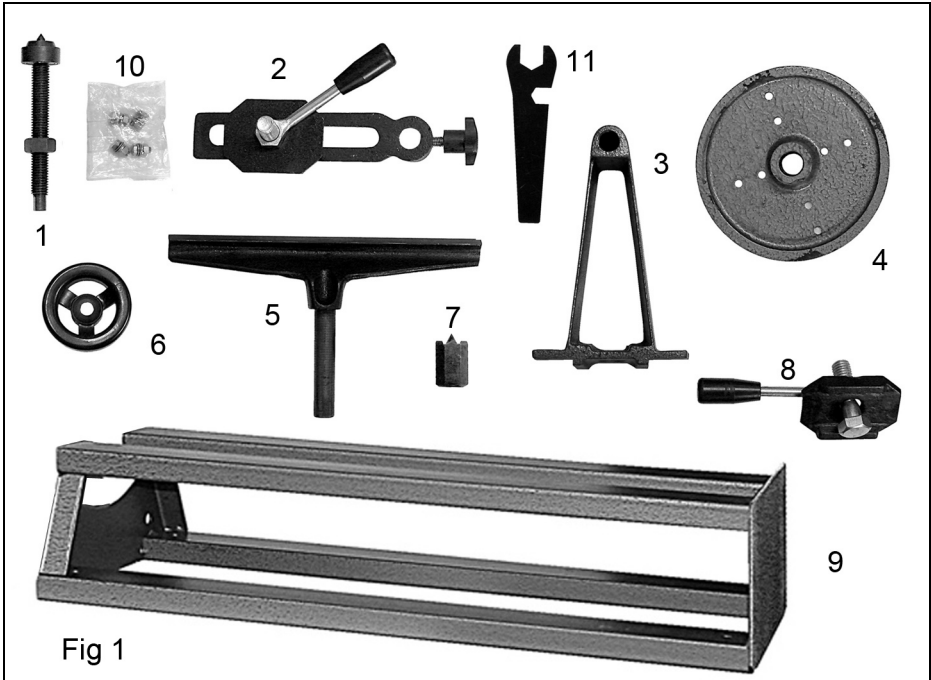

Fig 1
2. Place the tailstock on the bed and assemble the tail stock clamp assembly (8 in Fig 1) to the tail stock with the bolt through the hole in the tail stock, passing through the clamping plate and into the lever.
8. The tool rest (5 in Fig 1) is simply dropped into the hole in the bracket and secured using the knob provided.